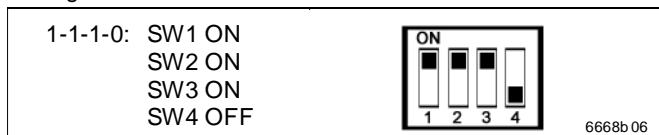

Fig. 28 DIP switch – configuration mode
- Set the DIP switches 12 (see view Fig. 2) as shown in Fig. 28: